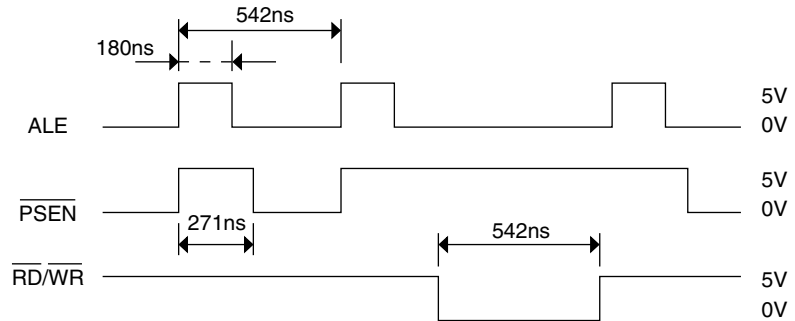

Figure B-3-3
• Yes Are ALE,  $\overline{\text{PSEN}}$ ,  $\overline{\text{RD}}$ ,  $\overline{\text{WR}}$ , signals as specified in Figure B-3-3?